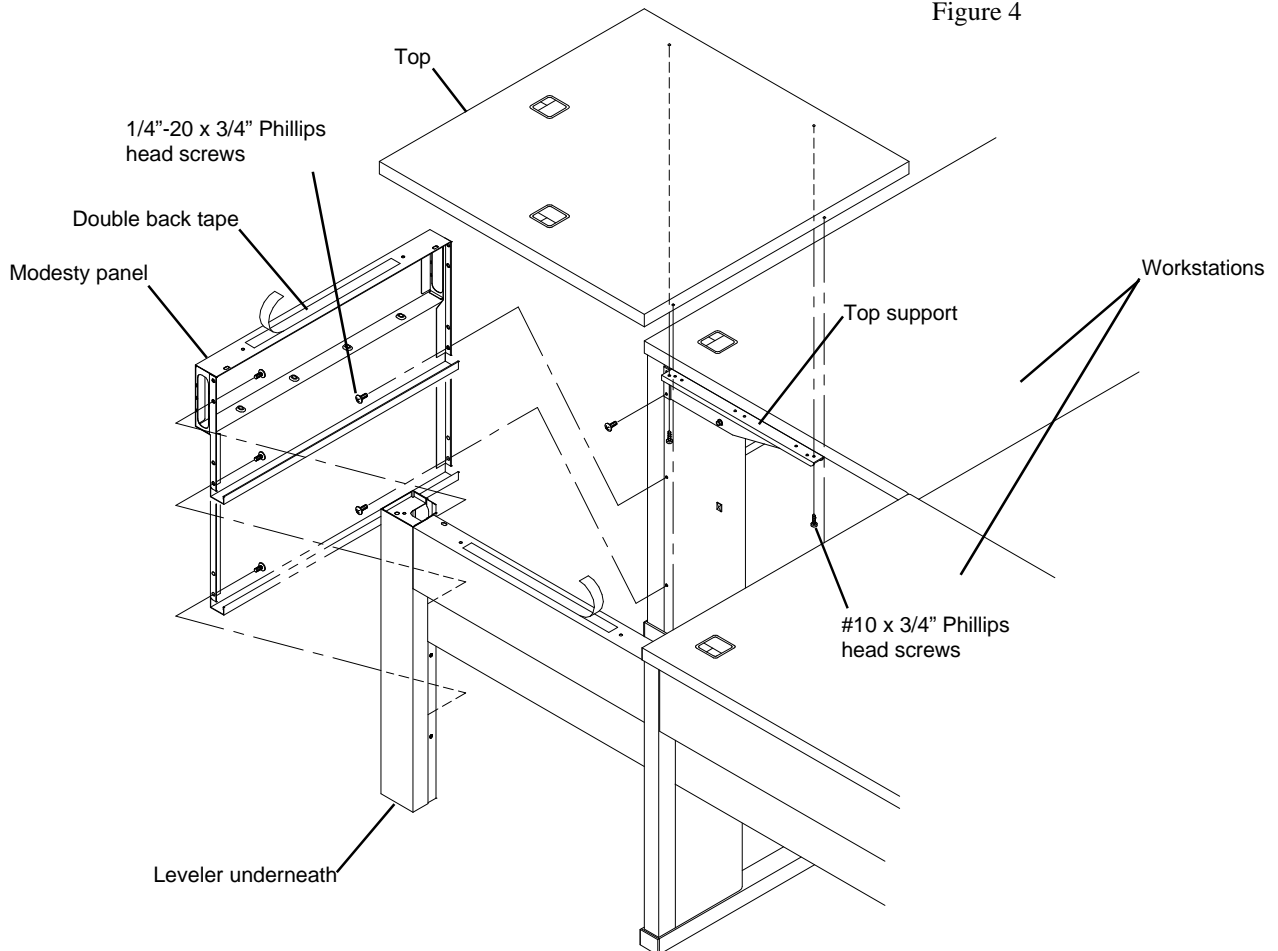

Figure 5
4. Place the **Top** over the Top Supports and Modesty Panels. Make sure that the worksurfaces and edges are flush and adjust the Leveler if necessary. See **Figure 5**.
5. Remove the Top and attach the **Double Faced Tape Strips** to the Modesty Panels. Next, remove the backing from the Tape Strips and carefully lower the Top back into position. See **Figure 5**.
6. Install the four #10 x 3/4" screws to secure the Top to the Top Supports. See **Figure 5**.